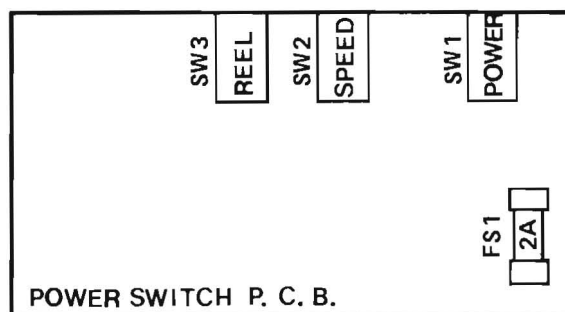

Figure 5-6 Main Power Fuse Location
4. FS1, main power fuse is located on this P.C.B. assembly as illustrated in Figure 5-6.